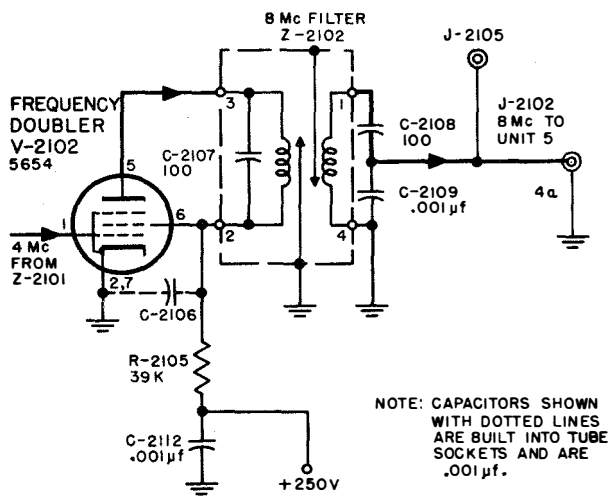

Figure 2-9. RFO Unit 4, Frequency Doubler V-2102, Simplified Schematic
(2) FREQUENCY DOUBLER V-2102.—Doubler V-2102 (figure 2-9) receives the output of Z-2101 and delivers 4 mc plus harmonics to the 8-mc filter, Z-2102. This filter attenuates all frequencies other than 8 mc. The final output (4a) is fed to unit 5 after being reduced by capacitance voltage divider C-2108 and C-2109 to a level of approximately 1.2 volts. Test point J-2105 is provided to test output 4a.
(2) 1-KC STEPS.—Inductor L-2080 or any one of the inductors, L-2052 to L-2060, and any one of the corresponding capacitors, C-2066 and C-2051 to C-2059, may be placed in the main tank circuit by means of switch S-2051 (figure 2-9). In this way, the oscillator frequency may be changed in 1-kc steps. With switch S-2052 in position 9, S-2053 in position 10, and S-2051 in position 9, the main tank inductor, L-2051A, is series-connected to ground through contact 9 of S-2051B, inductors L-2060 through L-2052, inductor L-2080, trimmer L-2051B, contact 9 of S-2052B, and contact 10 of S-2053B. Meanwhile, with S-2051C on contact 9, the main tank capacitor, C-2060, is connected in parallel to C-2066 of the capacitor assembly, Z-2052. Under these conditions, the oscillator frequency is 100 kc. If S-2051 is now placed in position 8, L-2060 is shorted out through contact 8 of S-2051B, thus reducing the inductance in the tank circuit. This would result in a higher oscillator frequency if it were not for the fact that, at the same time, the main tank capacitor, C-2060, is connected in parallel, through S-2051C, to capacitor C-2059, located in capacitor assembly Z-2052. The value of C-2059 is so high that it more than compensates for the above-mentioned decrease in inductance. As a result of the increase in capacitance, the oscillator frequency is lowered to 99 kc. When S-2051 is placed in position 7, L-2060 and L-2059 are shorted out, but C-2060 is connected to an even higher capacitance than formerly, which more than compensates for the decrease in inductance, resulting in a still lower frequency, 98 kc. This process is repeated each time switch S-2051 is